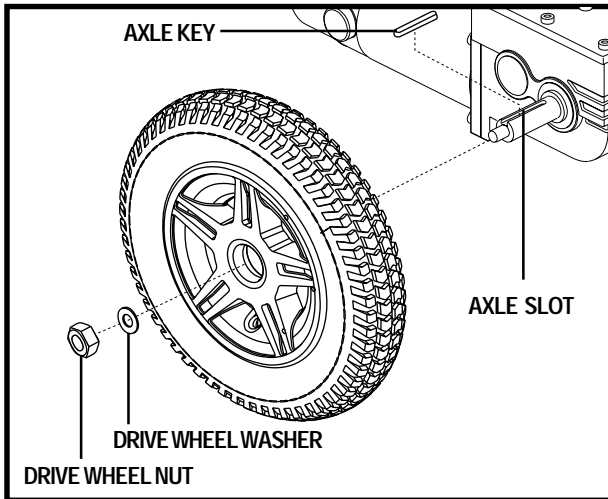

Figure 35. Quantum 600 XL Drive Wheel
4. Remove the drive wheel nut and washer from the wheel hub. See figure 35.